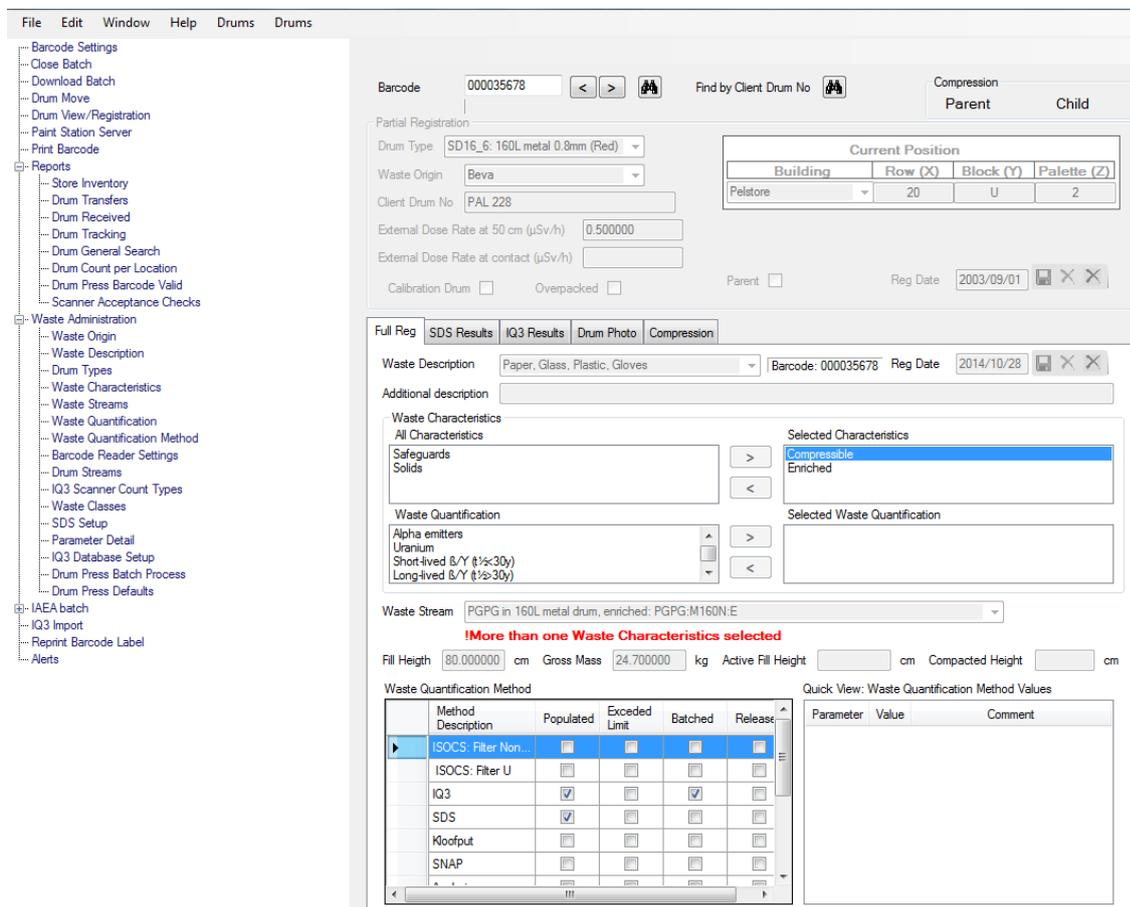

Figure 1: Print screen of Drum View/Registration module
using the *Download Batch* and *Drum Move* menus (see Figure 1). A report can then be generated of the list of barcodes downloaded. For the *Download Batch* additional information is added to generate the DTC.
Other information of the drums which is also captured into a database include among others the drum type, the client, the content of the drum (description of waste and a top view photo) and the characterisation information. The user interface containing the modules through which the capturing is performed is shown in Figure 1. The *Drum View/Registration* module as shown in Figure 1 is the module that contains all the information of the drum.
- The results from the IQ3 scanner are manually transferred/copied to the IQ3 backup database on the server through an administrator function (see Figure 3) from where the operator could import the data to the *IQ3 Results* tab through the *IQ3 Import* function (see Figure 1).